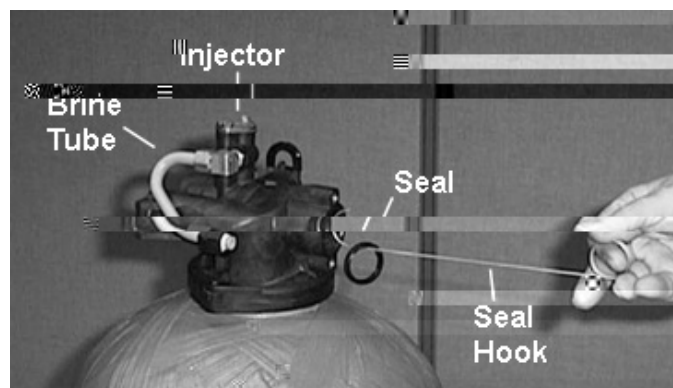

FIGURE 7
6. Remove the cap screw (N) and the cap screw (N) from the back plate. (See Figure 7.)